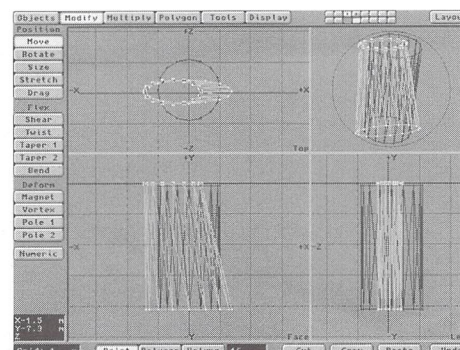

Figure 10: The morphed version of the shaft object
- Next, the points of the top and the bottom of the cylinder, respectively, were selected, and using the Stretch tool (**Modify** menu), I pulled and stretched the cylinder into an oval shape (Figure 10). This shape was then saved and loaded in Layout as "ShaftMorph.lwo."